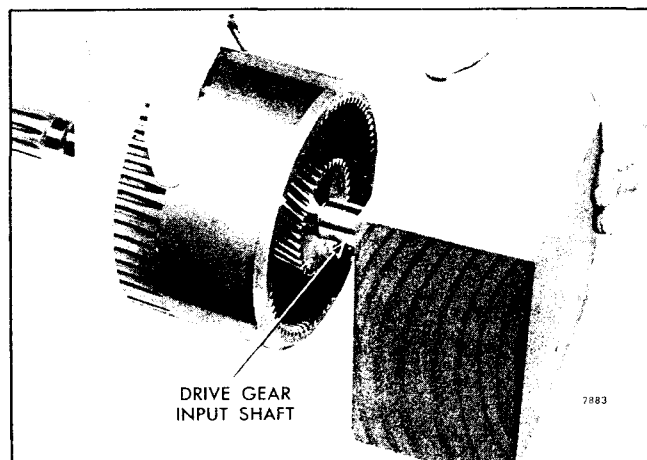

Fig. 67 - Placing Wood Block over End of Drive Gear Shaft
- d. Place the 3" x 6" x 6" wood block with the 1" hole drilled through its center over the drive gear shaft at the rear of the ring gear as shown in Fig. 67 to support the ring gear and drive gear assembly while installing the drive gear shaft bearing and snap rings.